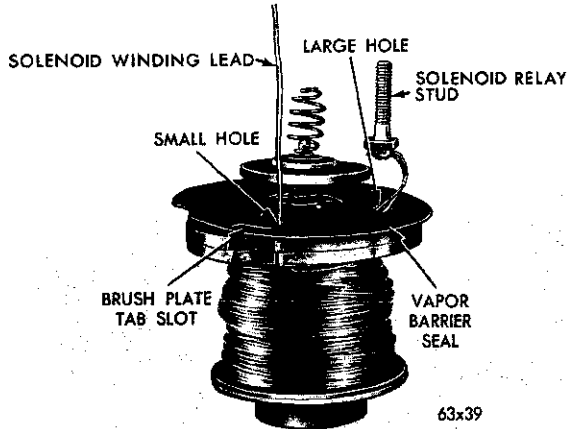

Fig. 7—Solenoid Assembly Removed
(13) Remove the solenoid assembly from the gear housing well (Fig. 7).
(14) Remove the nut, steel washer and sealing washer from starter battery terminal.
(15) Remove the starter battery terminal from the holder plate.
(16) Remove the solenoid contact and plunger assembly from the solenoid.